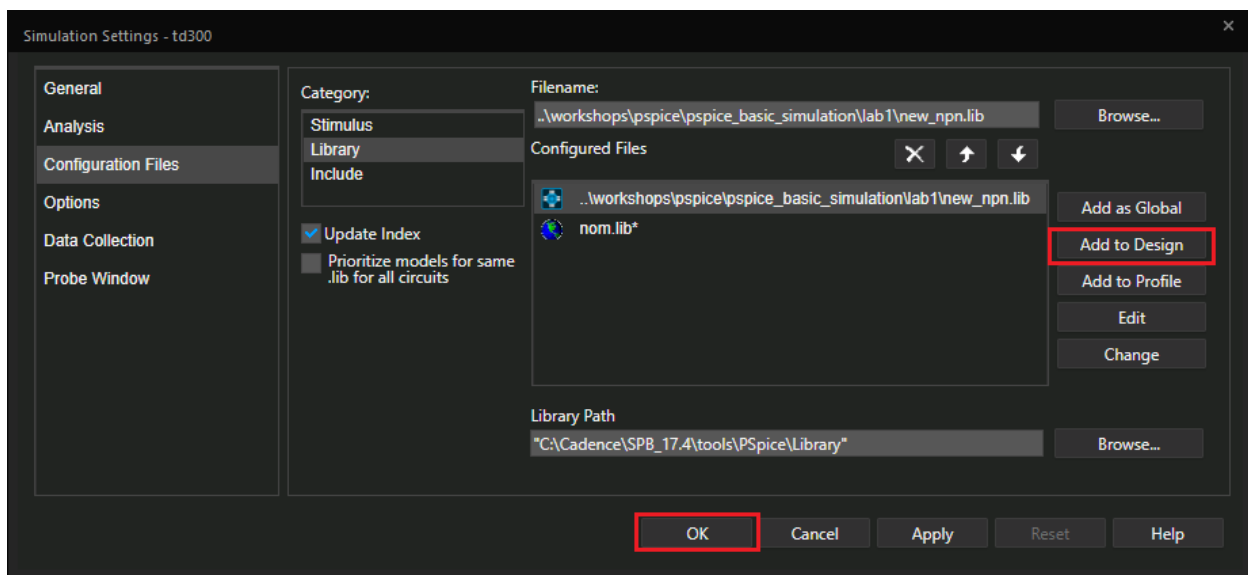

Figure 2-6: Add new_npn to simulation library
6. Select **Add to Design** to complete the action. The form should now resemble Figure 2-6.